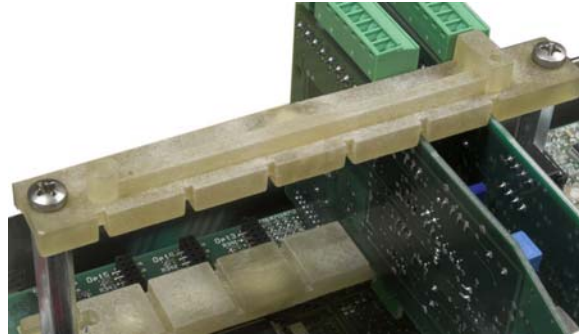

Figure 3-52: Upper Card Guide
7. Remove the two screws attaching the upper card guide, shown in Figure 3-52, and lift the guide from its stand-offs.
1. Loosen and remove the screws holding the upper card guide (Figure 3-52) in place on its stand-offs.
5. Replace the upper card guide, taking care to position the upper edge of the option board/s in the slot/s in the upper guide (see Figure 3-52).